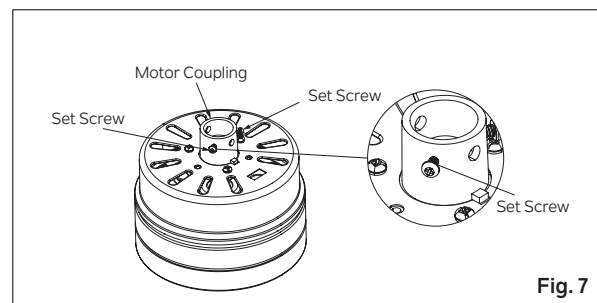

Fig. 7
Step 3. Loosen the two set screws (do not remove) on the motor coupling. (Fig. 7)